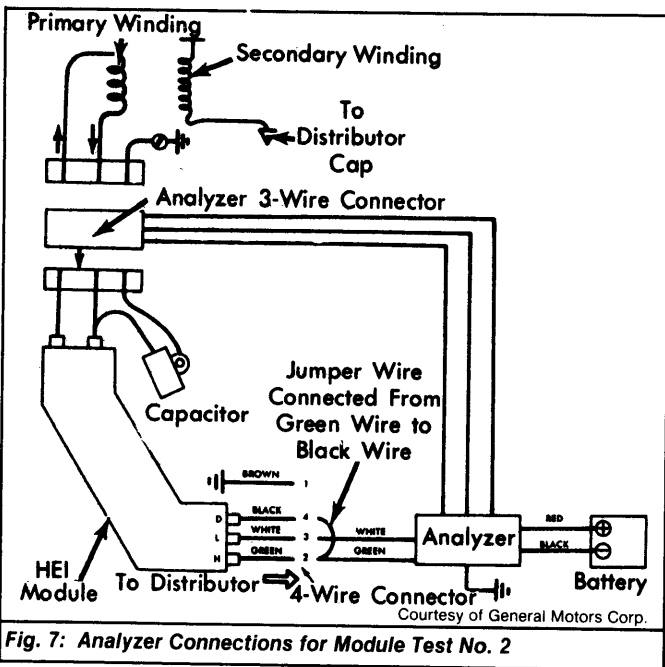

Fig. 7: Analyzer Connections for Module Test No. 2
1) Perform step 1) of MODULE (TEST NO. 1). Disconnect 4-wire connector from distributor to decoder. Connect analyzer Green clip to pin No. 2 (Green wire) that leads to module terminal H. Connect analyzer White wire clip to pin No. 3 (White wire) that leads to module terminal L. See Fig. 7.